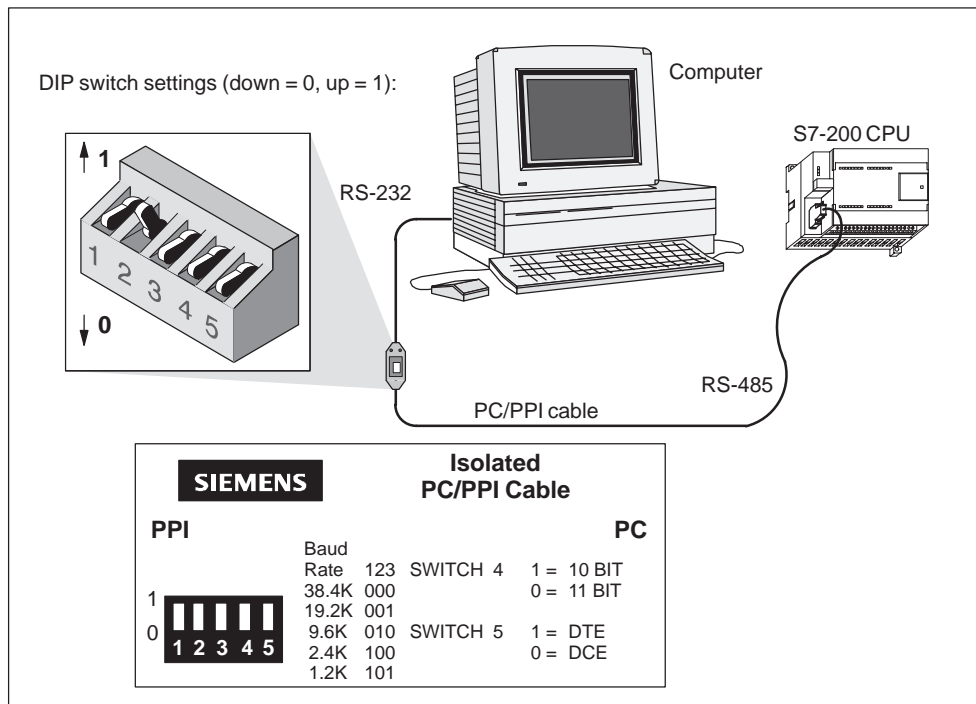

Figure 7-26 Communicating with a CPU in PPI Mode
- An isolated PC/PPI cable with an RS-232 port that has 5 DIP switches for setting baud rate and other configuration items (see Figure 7-26). For technical specifications about the isolated PC/PPI cable, see Appendix A.
To set the mode to Data Communications Equipment (DCE), you should set switch 5 to the 0 or down position (see Figure 7-26). To set the mode to Data Terminal Equipment (DTE), you should set switch 5 to the 1 or up position. Table 7-9 shows the pin numbers and functions for the RS-485 to RS-232 port of the PC/PPI cable in DTE mode. Table 7-10 shows the pin numbers and functions for the RS-485 to RS-232 port of the PC/PPI cable in DCE mode. You should note that the PC/PPI cable supplies RTS only when it is in DTE mode.